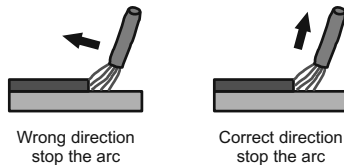

figure 7
7. To stop the welding electrode take away from the work piece. The correct direction of discharge electrode is shown in Figure 7